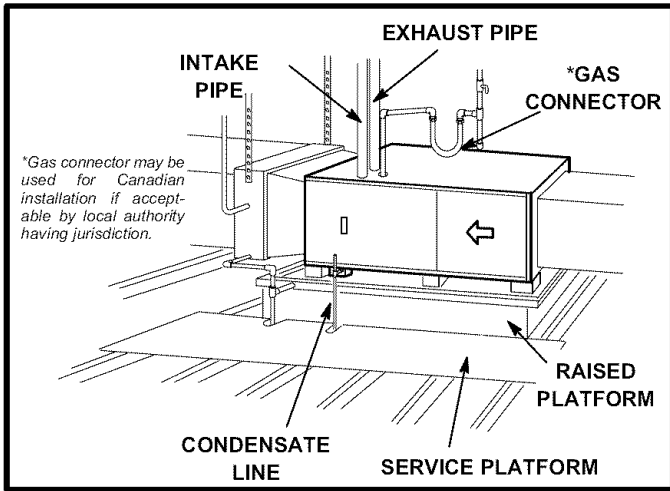

FIGURE 15
- 4 - Set unit in drain pan as shown in figure 15. Leave 5-1/2 inches for service clearance below unit for condensate trap.
The G71MPP may also be installed as a unit heater. Either suspend the furnace from roof rafters or floor joists, as shown in figure 14, or install the furnace on a field-fabricated raised platform, as shown in figure 15. The unit must be supported at both ends and beneath the blower deck to prevent sagging.